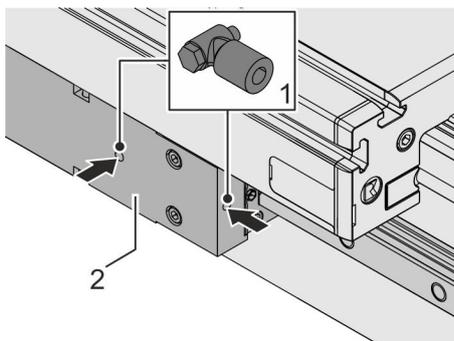

Fig. 43: Inserting the elbow connection
Depending on the requirement and application, the elbow connection (Fig. 43/1) is installed either on the holding plate or on the side of the holding plate of the locking system (Fig. 43/2) for this purpose.
3. ➔ Insert and tighten the elbow connection (Fig. 43/1) in the vacated drilled hole on the locking system (Fig. 43/2).